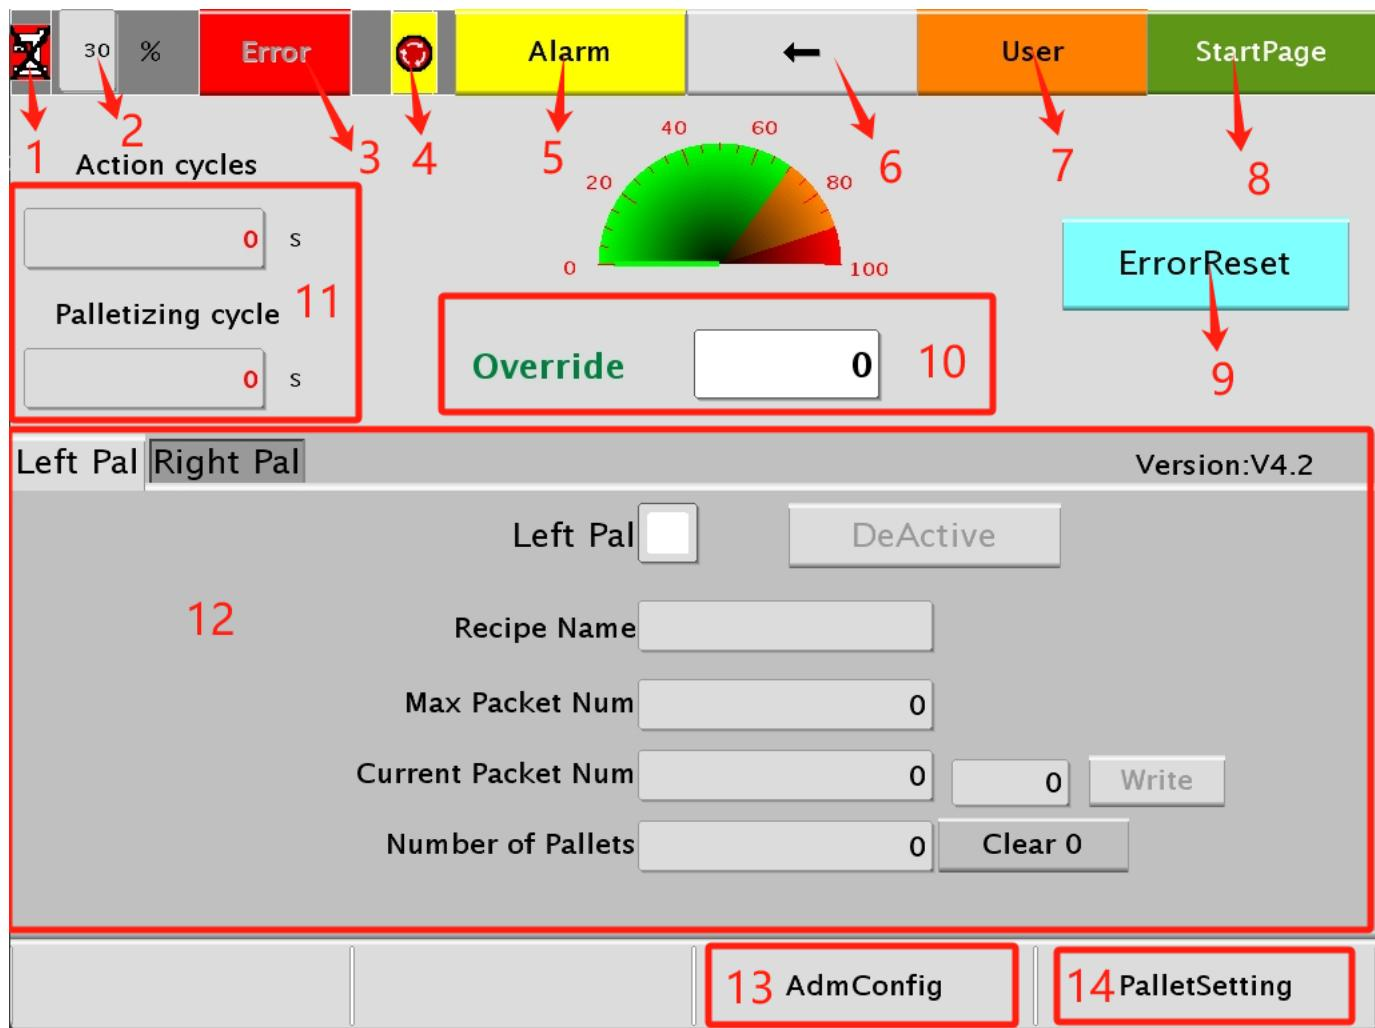

Figure 2
- ① Enable status: Indicates whether the current status is enabled. Red indicates that the status is not enabled (**Figure 2, area 1**).
- ② Speed display: Display the current speed of the robot (**Figure 2, area 2**).
- ③ Alarm status: indicates whether there is an alarm at present (**Figure 2, area 3**).
- ④ Emergency stop state: When the emergency stop button is pressed, this state is red (**Figure 2, area 4**).
⑥Return: Return to the previous interface (**Figure 2, area 6**).
⑧**Start Page:** The screen after the device starts up, also the normal production status page.
⑨**Error Reset:** Click here to clear the alarm after confirming the alarm content.
⑩**Robot speed :** The current speed setting of the palletiser operation, up to 100. can be modified directly by clicking on the (Fig. 2, area 10).
⑪**Action cycle time:** Monitors the time it takes from gripping to finishing.
⑫**Left and right side palletizing status display:** indicates the current recipe and palletizing progress when the robot is palletizing on the left and right side, and the number of pallets can also be modified. (The palletizing recipe cannot be modified while it is in use; it needs to be stopped and clicked to close the palletizing before it can be modified.)
⑬**Adm Config:** You can access advanced privileges to modify internal parameters or view internal data.
⑭**Palletizing setting:** you can create new product recipe and modify palletizing method.
1、 first set the "Jog Velocity", in order to ensure safety, the speed should not be too large, it is recommended that the "Jog Velocity" is set below 30 and (**Fig. 2, area 10**) speed is also below 30.
1, first set the " **Jog Velocity**", in order to ensure safety, the speed should not be too large click, it is recommended that the " **Jog Velocity**" is set at 30 or less and the speed of(**Fig. 2, area 10**) is also below 30.